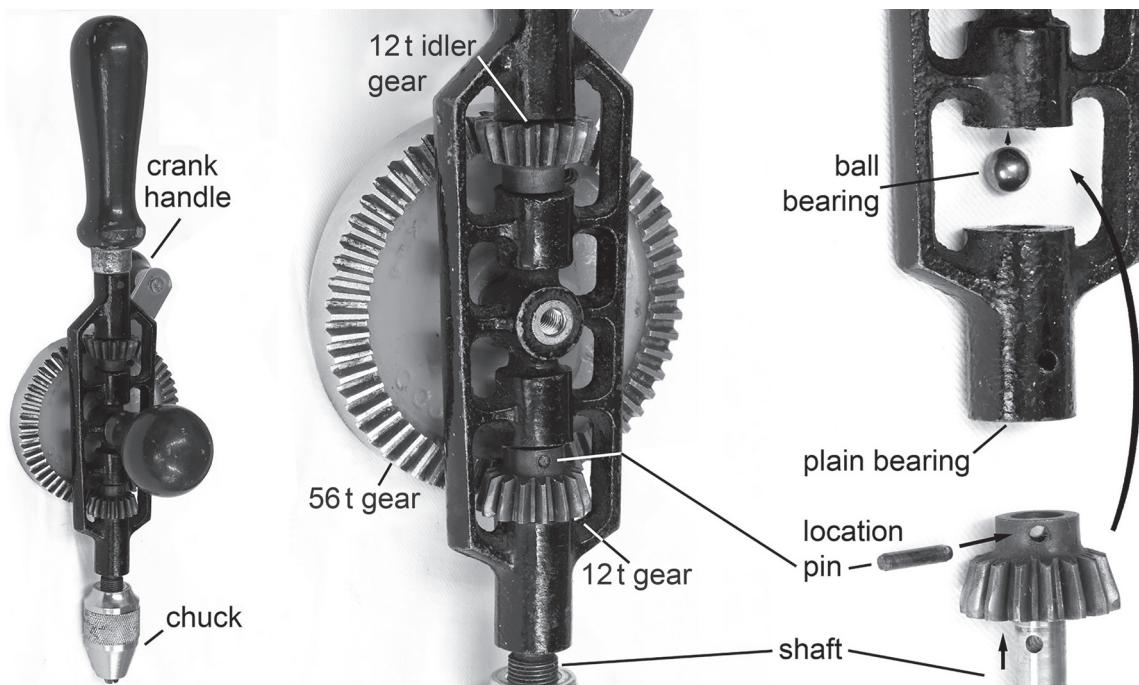

Fig. 11
- (c) Fig. 11 shows a hand drill.